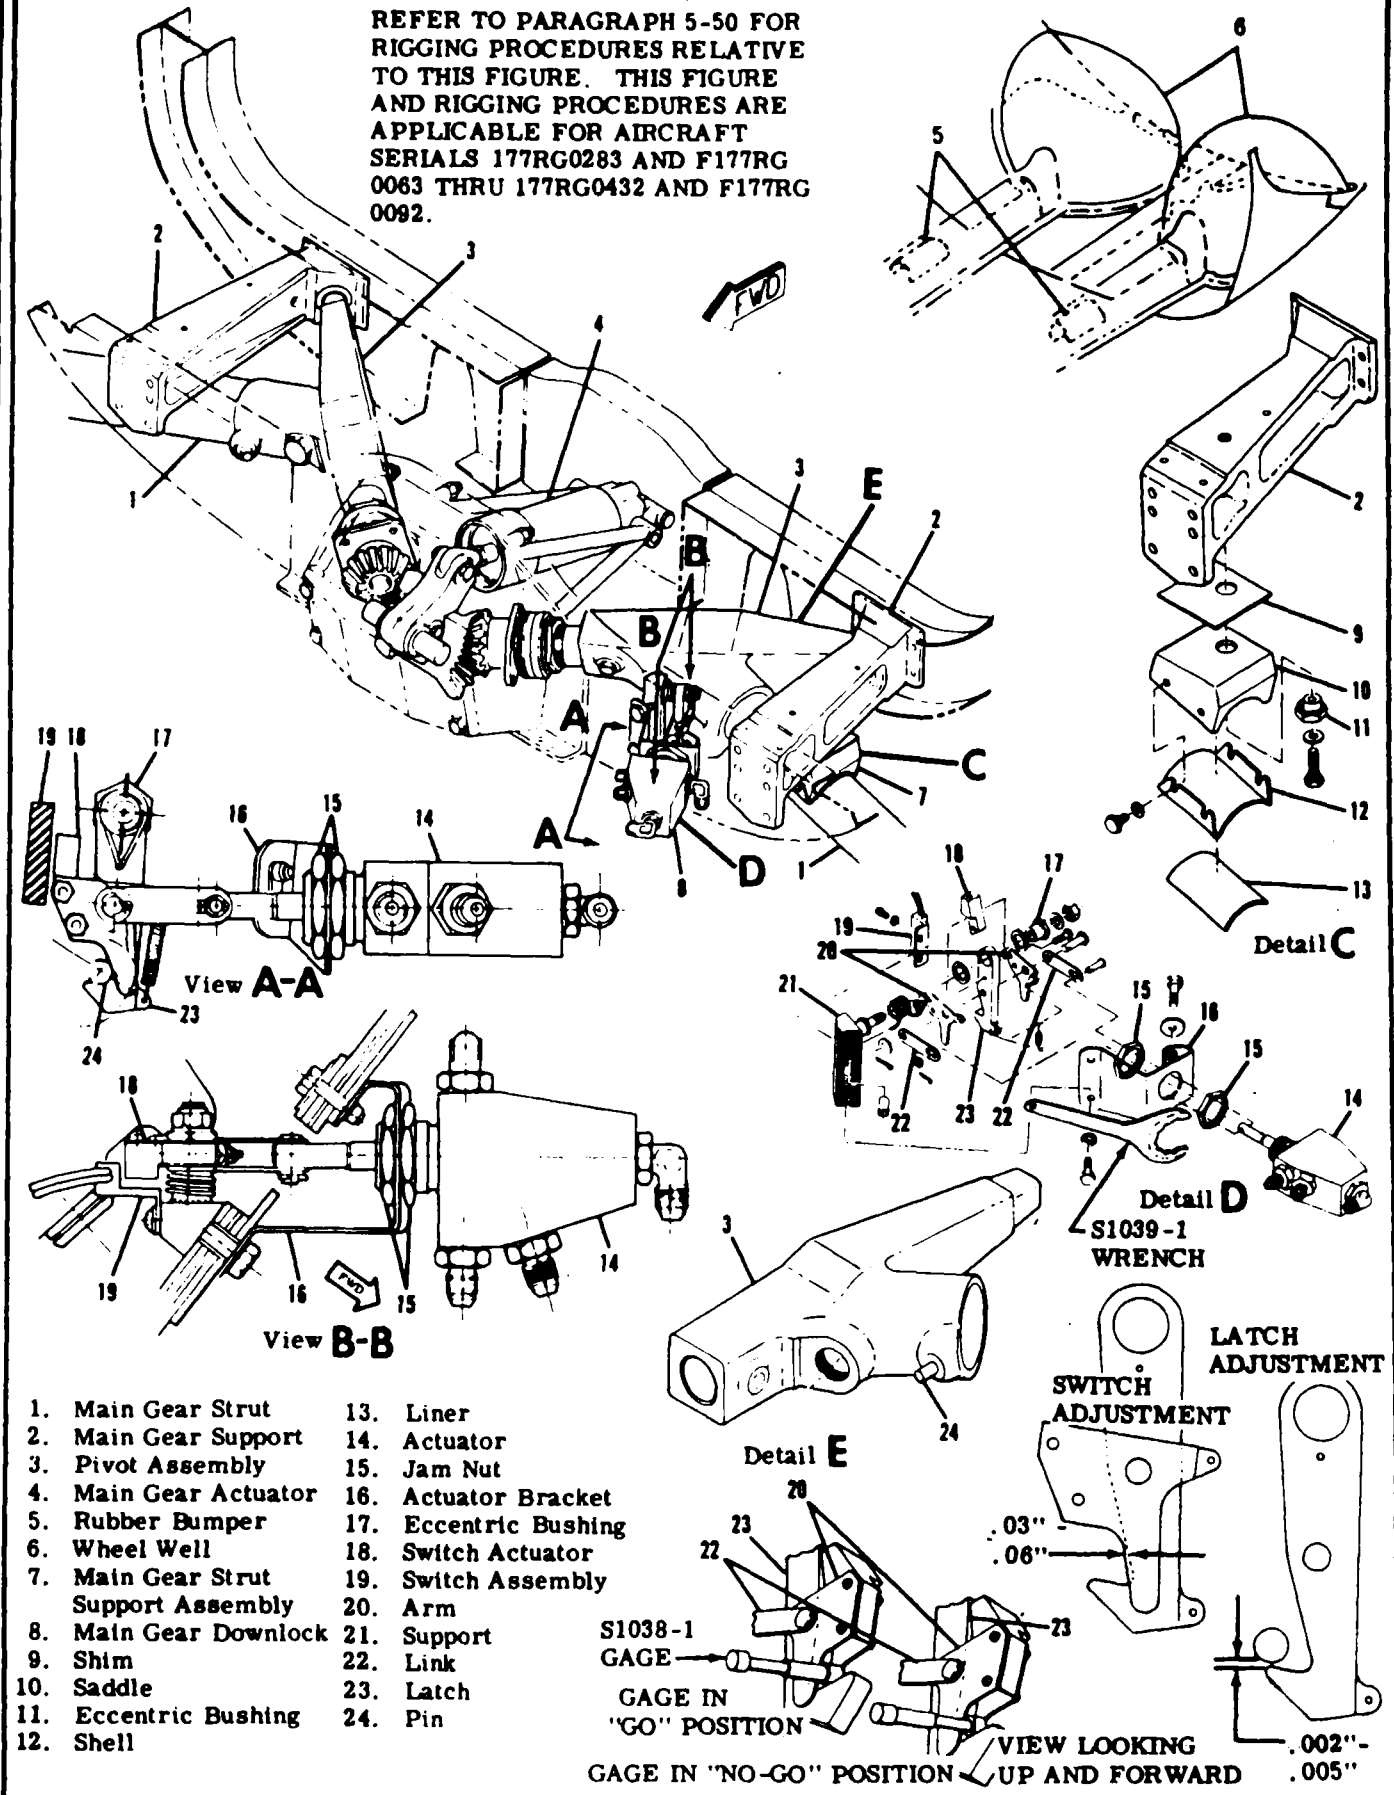

Figure 5-22. Main Landing Gear Rigging Procedures
5-50. MAIN LANDING GEAR RIGGING. (177RG0283 AND F177RG0063 THRU 177RG0432 and F177RG0092.) (Refer to figure 5-22.)
g. Using either the emergency hand pump or Hydro-Test unit, bring landing gear to a nearly full-down position. As the landing gear approaches full-down, check shells (12) for alignment. Rotate saddle assemblies (10) on bushings (11) for alignment with gear legs. If assembly is too far forward or too far aft, drop landing gear out, remove shell (12) and turn bushing (11) as required to move assemblies forward or aft as required; replace shell (12).
h. The .015-inch maximum dimension (see figure 5-22) between the neoprene shell (12) and the strut (1) is in reference to the aircraft positioned in a stand for rigging. This will provide approximately 90±10% contact area with the aircraft on the ground.
i. When alignment is obtained, check for simultaneous contact of gear legs to shells (12). When proper alignment and simultaneous contact of gear legs to shells is achieved, remove the landing gear shells and tighten the bolts installed vertically which attaches the eccentric bushings and saddles to the outboard landing gear forgings. Reinstall the landing gear shells and tighten the four bolts on each saddle which attach the shells to the saddles. Safety wire the subject shell attachment bolts.